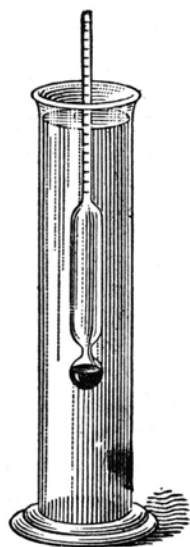

Figure 1: A hydrometer in use
If you were a 19th century industrial chemist you would be very familiar with degrees Twaddle. I came across it in connection with the iodine from seaweed industry, where the concentrations of seaweed extracts were usually measured in degrees Twaddle. The units were in common use, especially in Scotland, to measure the specific gravity (SG) of solutions, whose density was compared with water so that SG has no units. Water with a specific gravity of 1.00 was 0.00 on the Twaddell scale and a S.G. of 2.00 was 200. Thus a SG of 1.50 was 100 on the Twaddle scale. The scale was probably invented by a Glaswegian glassblower William Twaddell (1792-1839), who made hydrometers. There are also suggestions that it was invented by Charles Macintosh (1766-1843) but made by Twaddell. A hydrometer is a device for measuring the specific gravity of a solution (Figure 1.)